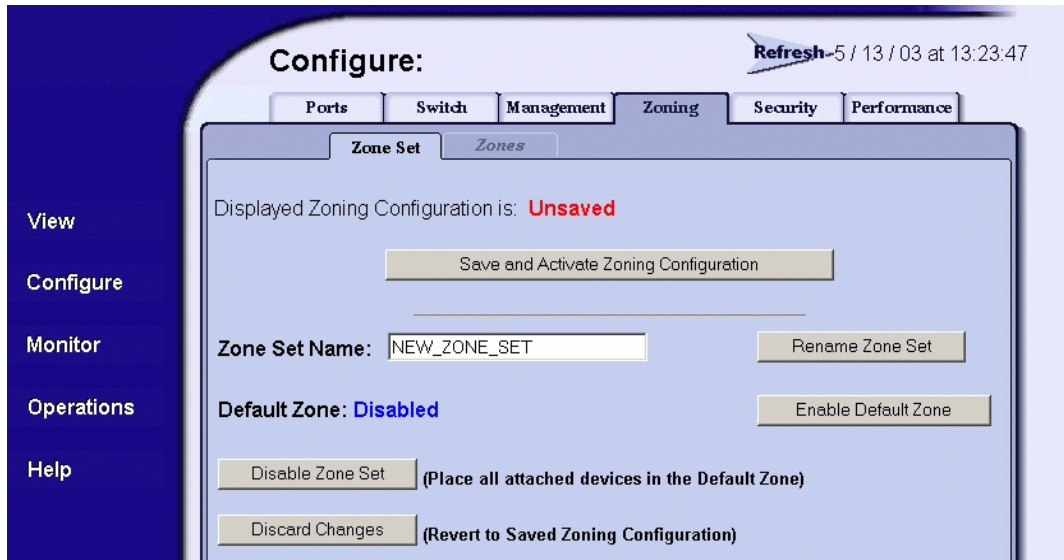

Figure 28: Zoning page—Zone Set tab
1. Click **Zoning** to display the **Zone Set** tab (Figure 28).